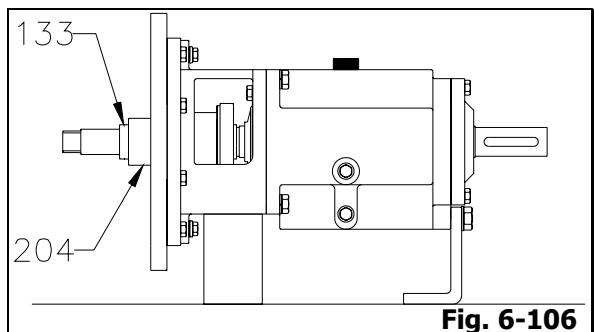

Fig. 6-106
17. For pump end mechanical seal (204) furnish with jam nuts, where abutment ring (463) is not available, coat shaft sleeve (133) surface with oil, slide the rotary portion of pump end mechanical seal (204) carefully onto shaft sleeve (133) by hand until the end of the mechanical seal (204) reach the mechanical seal location marking which has been made on shaft sleeve (133) during disassembly, and screw in mechanical seal jam nuts (Fig. 6-106).